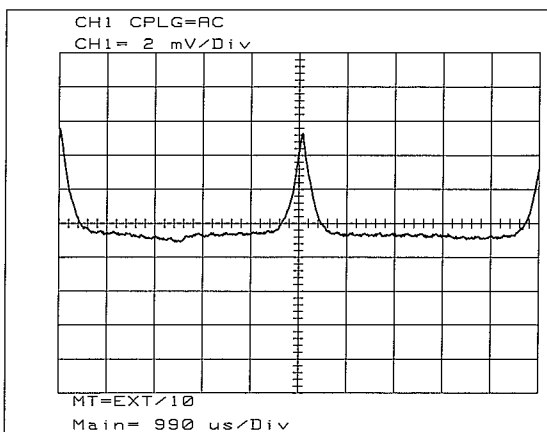

Figure 3-7 R422 needs adjustment (spikes may extend down)
9. Adjust A32**R422** to flatten the triangle signal at A32**TP401** (shown out of adjustment in figure 3-7).